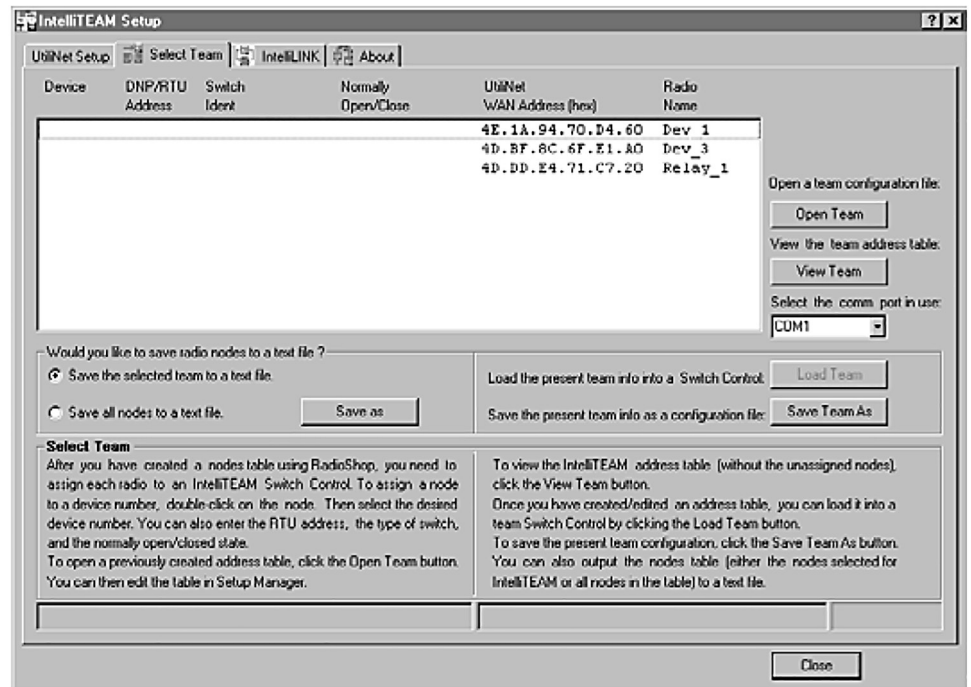

Figure 14. The **Select Team** screen in the Setup Manager software.
- (a) Click on the **Select Team** tab to display the team information table. See Figure 14.